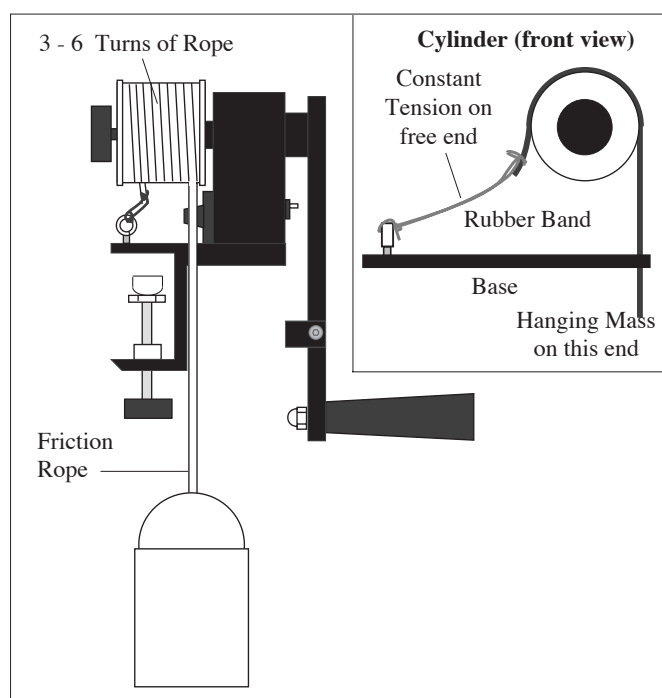

Figure 9 Add Friction Rope and Hanging Mass
- ⑦ Wrap the nylon rope several turns around the aluminum cylinder (4-6 turns should work well) as shown in Figure 9. Be sure that the rope lies flat against the cylinder and hangs down the slot provided in the base plate. Tie one end of the rope, the end nearest to the crank, to the 10 kg mass as shown.